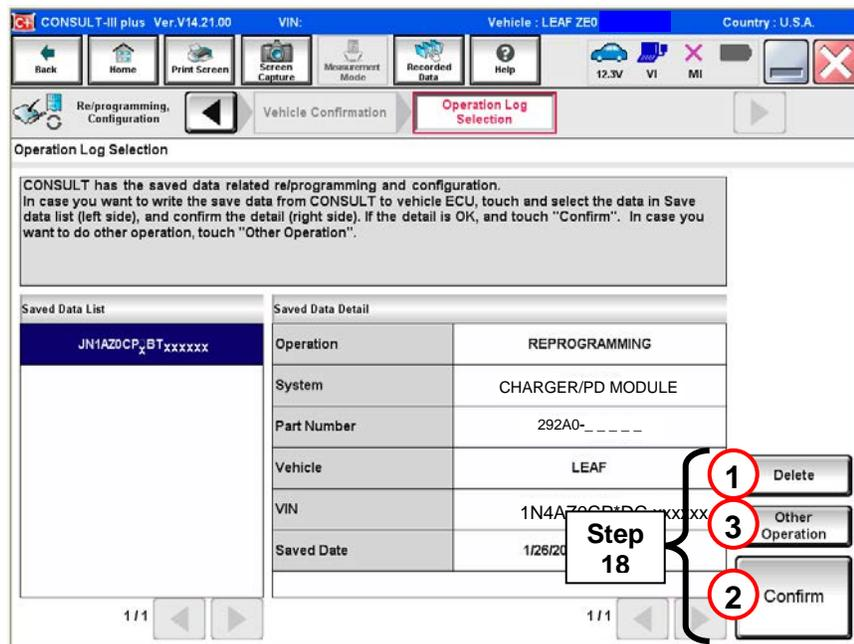

Figure 12
18. If the screen in Figure 12 appears, select **Delete**, **Confirm**, and then **Other Operation**.